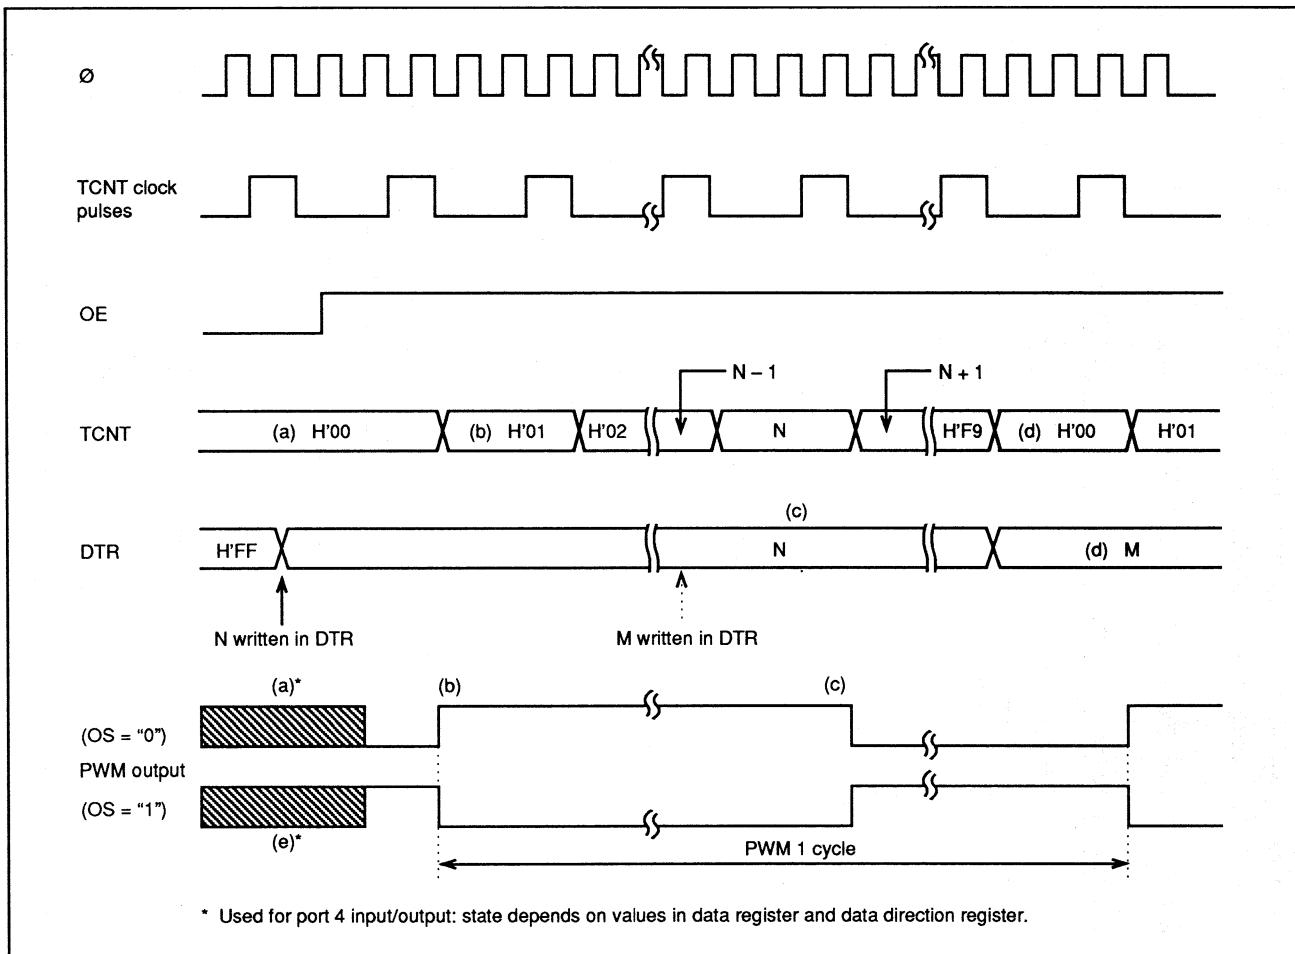

Figure 8-3. PWM Timing
Figure 8-3 is a timing chart of the PWM operation.
① When (OE = “0”) – (a) in Figure 8-3: The timer count is held at H’00 and PWM output is inhibited. (Pin 46 (for PW0) or pin 47 (for PW1) is used for port 4 input/output, and its state depends on the corresponding port 4 data register and data direction register.) Any value (such as N in Figure 8-3) written in the DTR becomes valid immediately.
- i) The timer counter begins incrementing. The PWM output goes High when TCNT changes from H’00 to H’01, unless DTR = H’00. [(b) in Figure 8-3]
- ii) When the count passes the DTR value, the PWM output goes Low. [(c) in Figure 8-3]
- iii) If the DTR value is changed (by writing the data “M” in Figure 8-3), the new value becomes valid after the timer count changes from H’F9 to H’00. [(d) in Figure 8-3]
(2) Negative Logic (OS = “1”) – (e) in Figure 8-3: The operation is the same except that High and Low are reversed in the PWM output. [(e) in Figure 8-3]